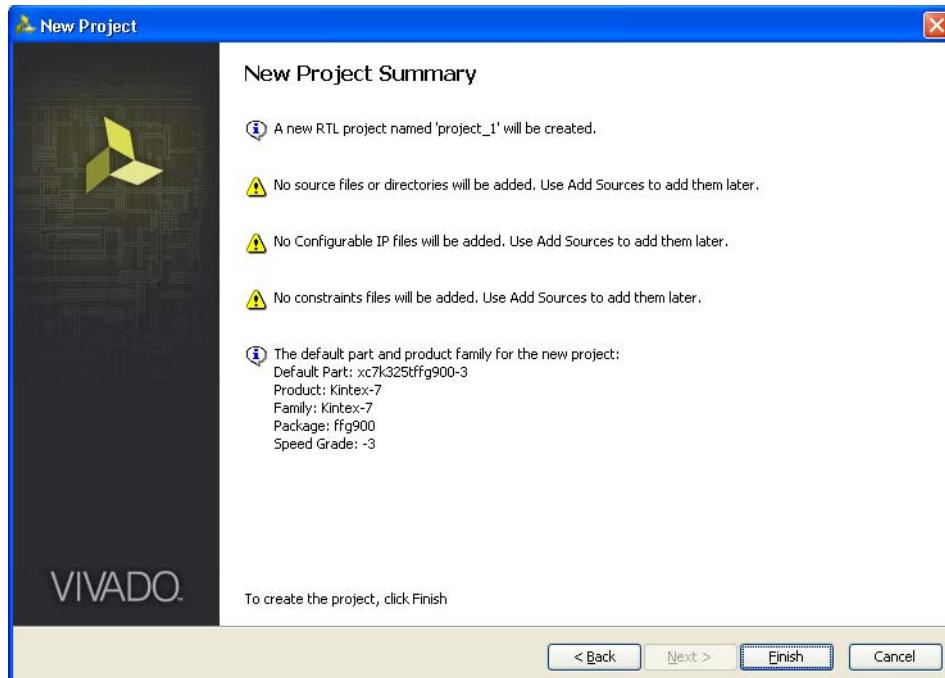

Figure 3-11: New Project Summary
9. Click **Next** to open the New Project Summary page (Figure 3-11). This includes the summary of selected project details.